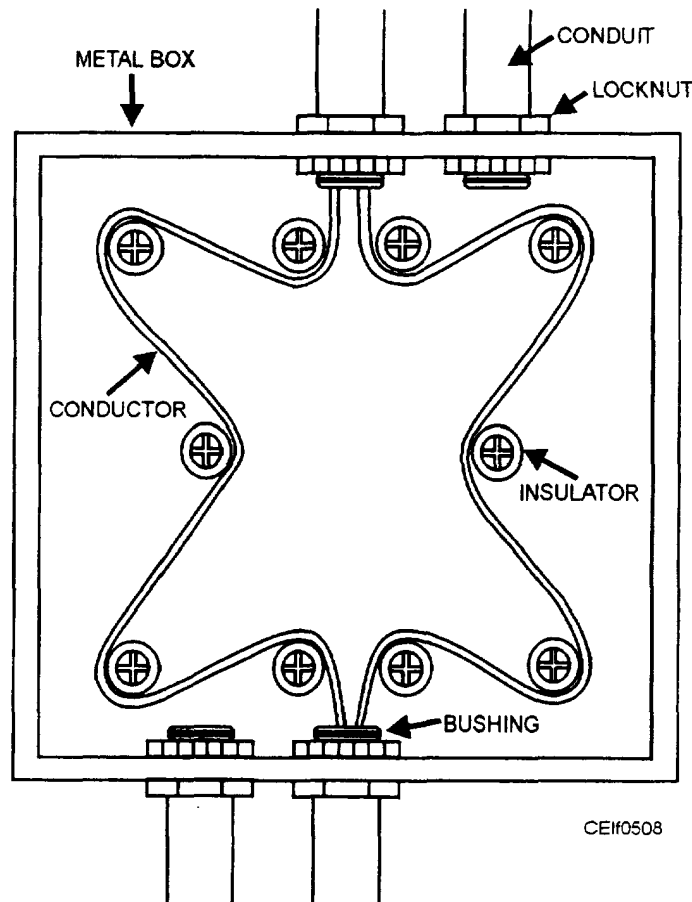

Figure 5-8.—Supporting conductors in a vertical conductor run.
3. The cables may be supported in junction boxes by deflecting them (fig. 5-8) not less than 90 degrees and carrying them horizontally to a distance not less than twice the diameter of the cable. The cables may be carried on two or more insulating supports and additionally secured by tie wires. When this method is used, the cables will be supported at intervals not greater than 20 percent of those mentioned in the preceding table.